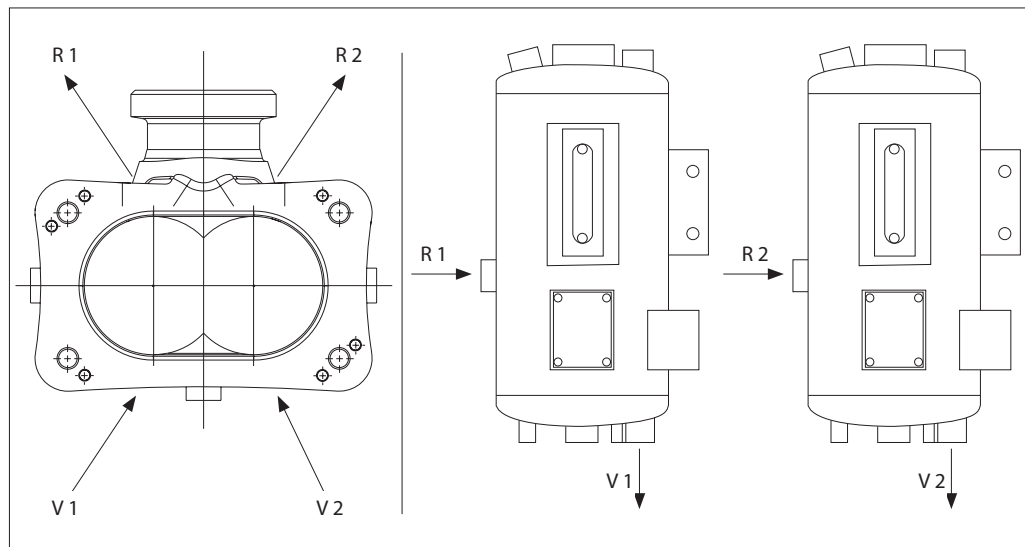

Fig. 5.7: Quench medium connections for the mechanical seals are on the Twin NG and sealing pressure tank housings
The sealing pressure tank (see Fig. 5.7) is used to supply double-acting mechanical seals or double-acting mechanical seal cartridges. It acts as a storage tank (unpressurized) for the sealing liquid (quench medium) on site. The purpose of the quench medium is to lubricate, cool or heat the mechanical seal as well as minimizing leaks.
- ▶ See Fig. 5.7 for connecting the mechanical seal to the sealing pressure tank